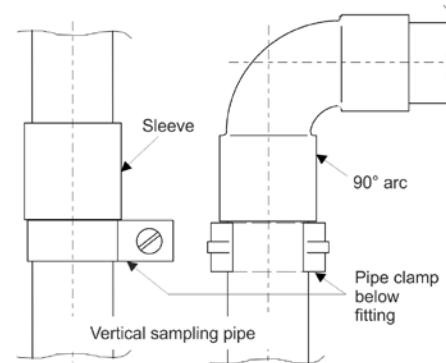

Fig. 21 Vertical sampling pipe
- If the sampling pipe or parts thereof is laid out vertically (e.g. in a riser), make sure the tubes cannot slide down (secure pipe clamps directly below the fittings as shown in **Fig. 21**).